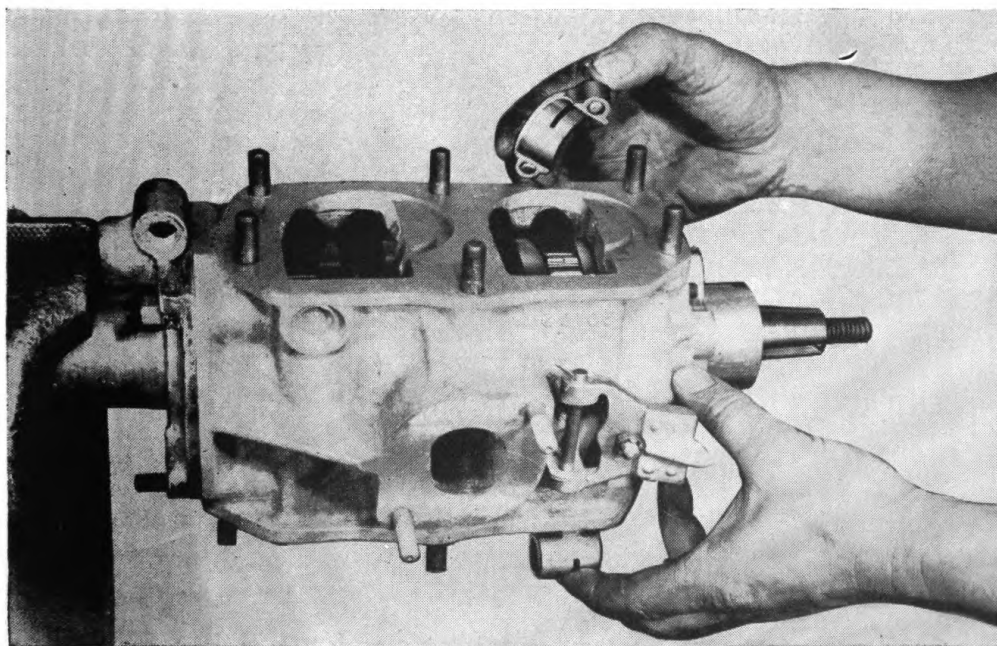

Figure 72. Assembling connecting rods.
(4) After all parts have been cleaned and made ready for reassembling, place a set of retainers on a clean bench and drop rollers into retainers. A few drops of No. 70 oil will keep them in place. *Do not use grease.*
(5) Place crankcase and crankshaft assembly in a vise in horizontal position, and proceed with rod No. 1, upper left. Place three retainers with their rollers on upper part of rod. Bring rod up to crank pin. (See replacing No. 2 rod, fig. 72.) Then take remaining three retainers with rollers and place them on crank pin. Drop rod-bearing cap over the retainers. See that cap is in proper position by checking markings on cap and rod.